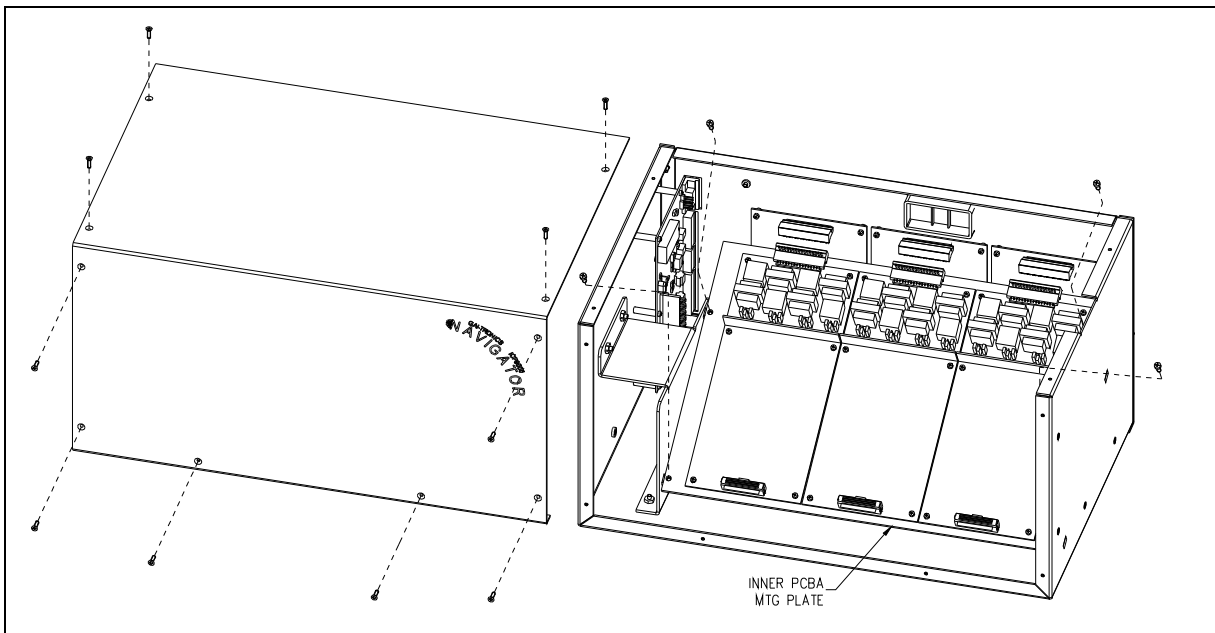

Figure 28.
2. Remove the ten screws securing the side cover panel and gently lift the cover. See Figure 28 below.
3. Disconnect all plugs attached to the inner slave board mounting plate. See Figure 28. Then remove the four screws attaching the mounting plate to the main enclosure. This allows you to remove the mounting plate.